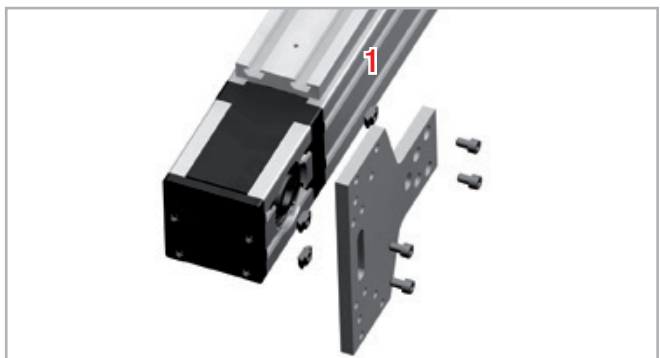

Fig. 90
1. Prepare the connection plate by inserting the screws into the existing holes on the APC-1 (see fig. 90).